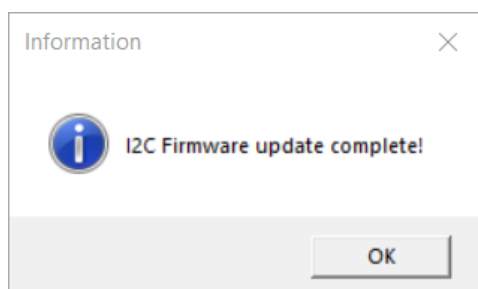

Figure 165. I2C FW Update Success Message
- update via I2C: Figure 165 shows the confirmation pop-up window for successful FW Update.